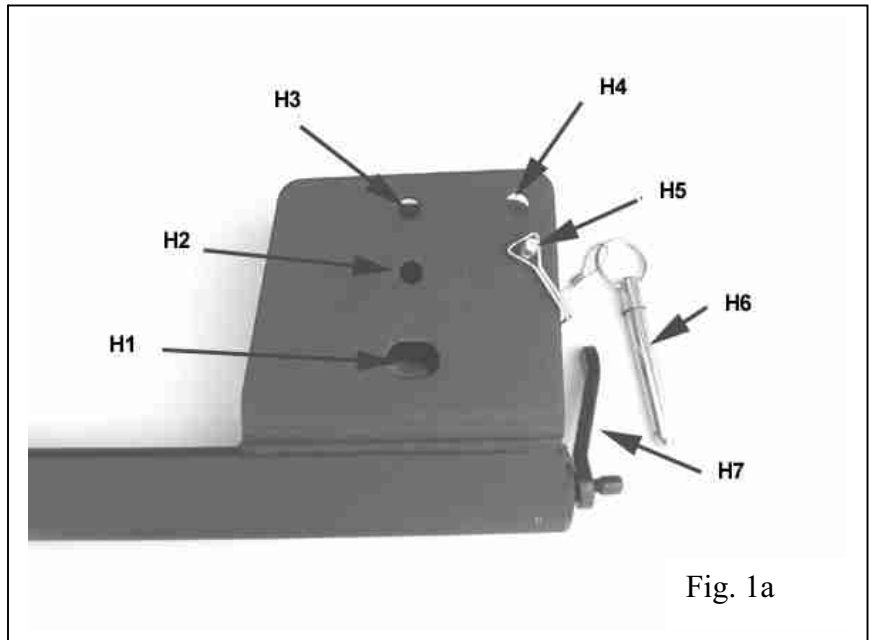
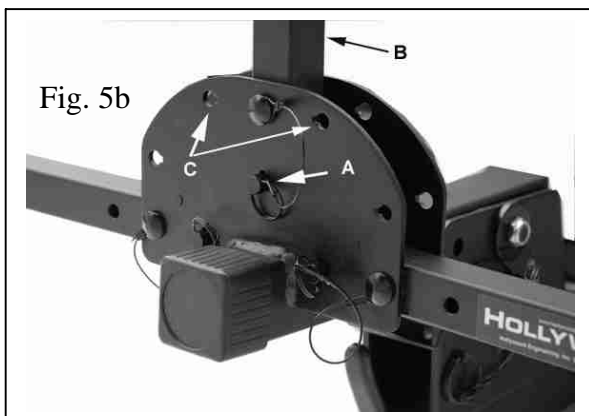

Fig. 1a
Fig. 5b
To fold up the main beam, you must first fold down the vertical post (B). Refer to Fig. 5b: Rotate and remove pin A, then rotate the post (B) and replace the pin in either holes C. Next, refer to Fig. 1a: remove clip R from pin H6, then remove pin H6. Finally, rotate main beam upward and re-install pin H6 and clip into hole H2 per Fig. 1a & 5a
For easy access to the rear cargo door of your vehicle, the Sport Rider can be tilted down: First fold down vertical Post as described in "Fold-up feature". Next refer to fig. 1a: Remove pins H5 then H6 from receiver tube bracket and gently lower the main beam down so it is resting on the welded stop.